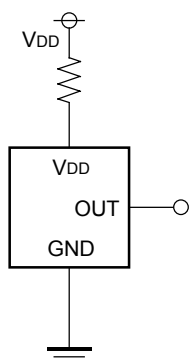

Figure 9
1. In Figure 9, When R3113Dxx1C is used, and if an impedance is connected between Voltage Supplier and the VDD Pin of R3113Dxx1C Series, the operation might be unstable by cross conduction current at detection.
When R3113Dxx1A is used in Figure 9, if the value of R is set excessively large, voltage drop may occur caused by supply current of IC itself and Detector threshold may vary.